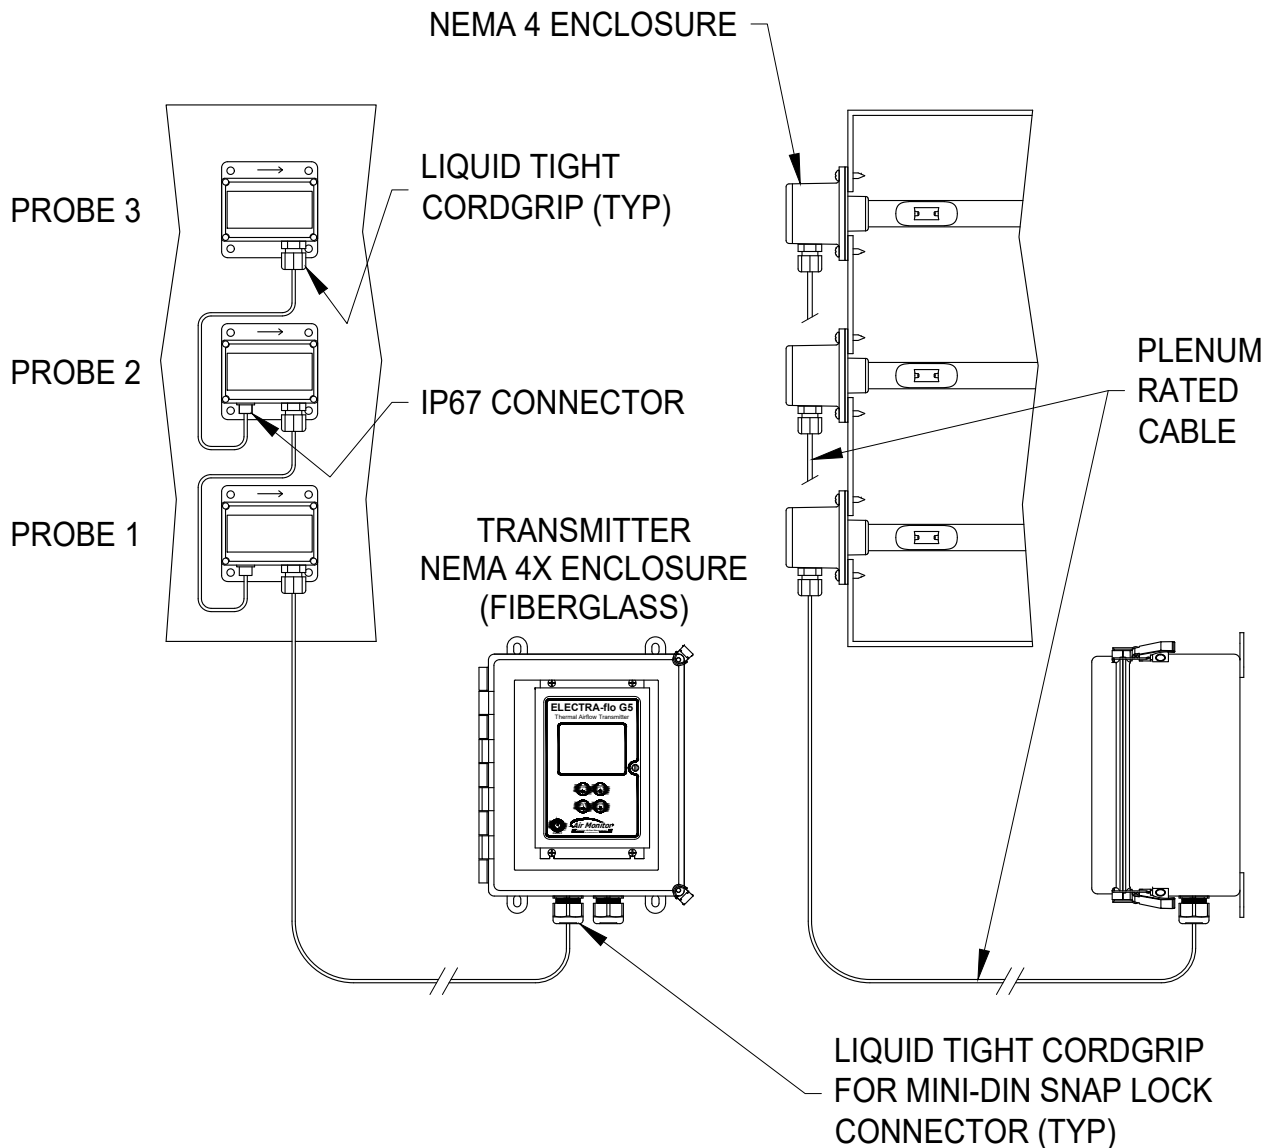

Figure 12
- Multiple **externally** mounted probes connect to each other in a daisy chain method, with one probe in the chain connecting to the transmitter. See Figure 12.